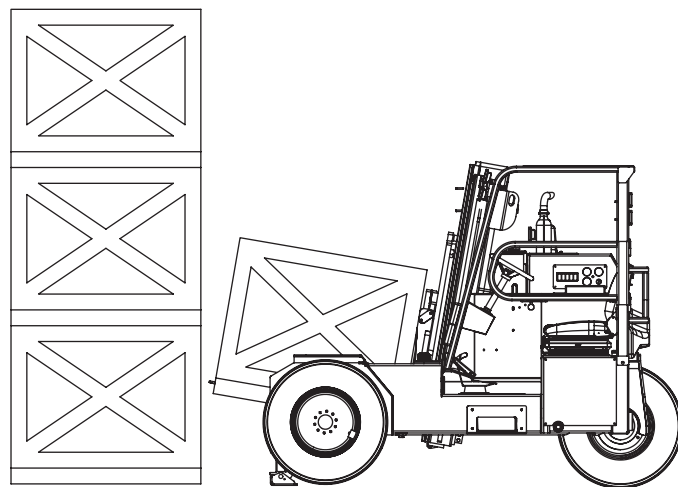

Fig 7
1. Approach the loading area slowly, aligning the forklift and the load. When the load is properly aligned set the park brake and lower the stabilizers. *Fig 7.*